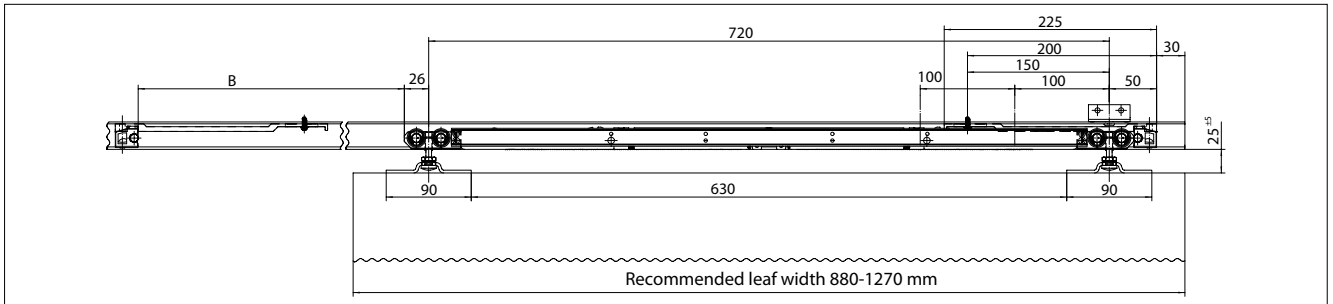

Fig. 13-2
e.g. with wooden leaf, medium-sized design (2-sides), damping in both directions, see Fig. 13-2